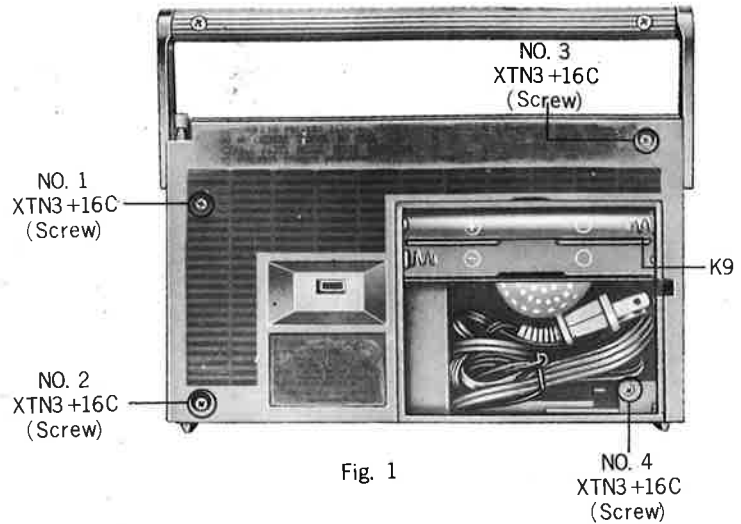

Fig. 1
2. Remove four (4) screws, No.1~4, for the cabinet back cover, as illustrated in Fig. 1.